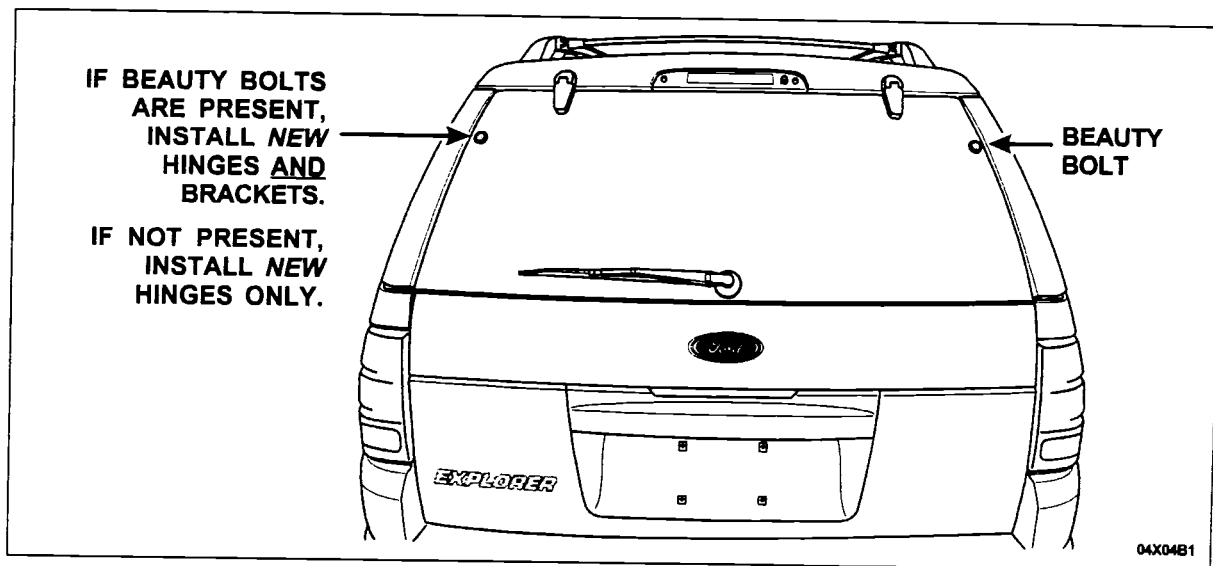

FIGURE 2
- Early 2002 models use ball stud brackets that are secured with beauty bolts, which pass through the glass (the head of the bolt is visible on the outside of the glass) and are bonded to the glass about 150 mm (6 inches) from the top of the glass. See Figure 2. If beauty bolts are present, both the liftgate ball stud brackets and hinges will be replaced. Perform BOTH the Liftgate Glass Hinge Replacement and the Ball Stud Bracket Replacement. Begin your repairs with LIFTGATE GLASS HINGE REPLACEMENT.